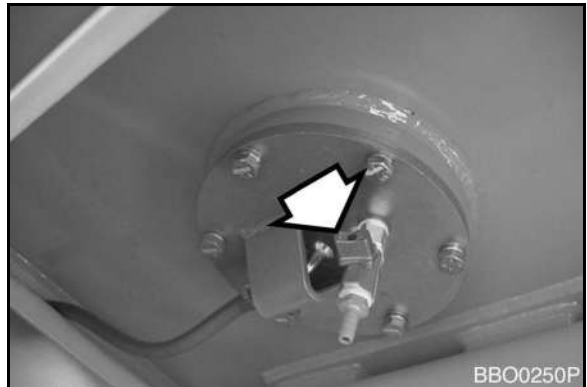

Figure 15
10. Make sure fuel tank drain valve (Figure 15) on bottom of tank is closed.